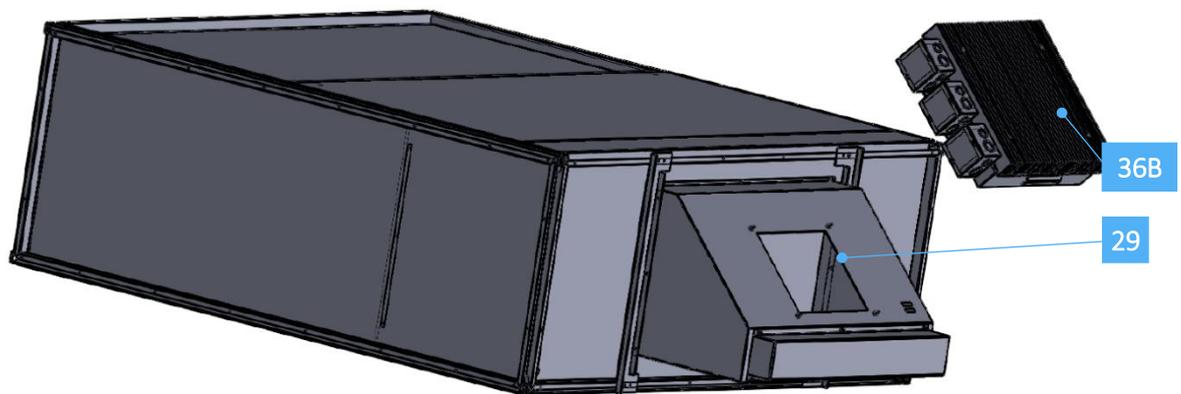
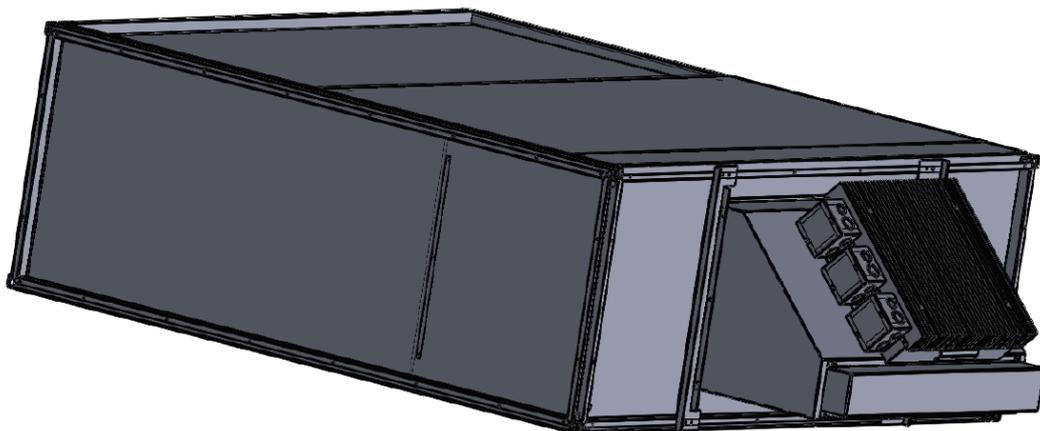
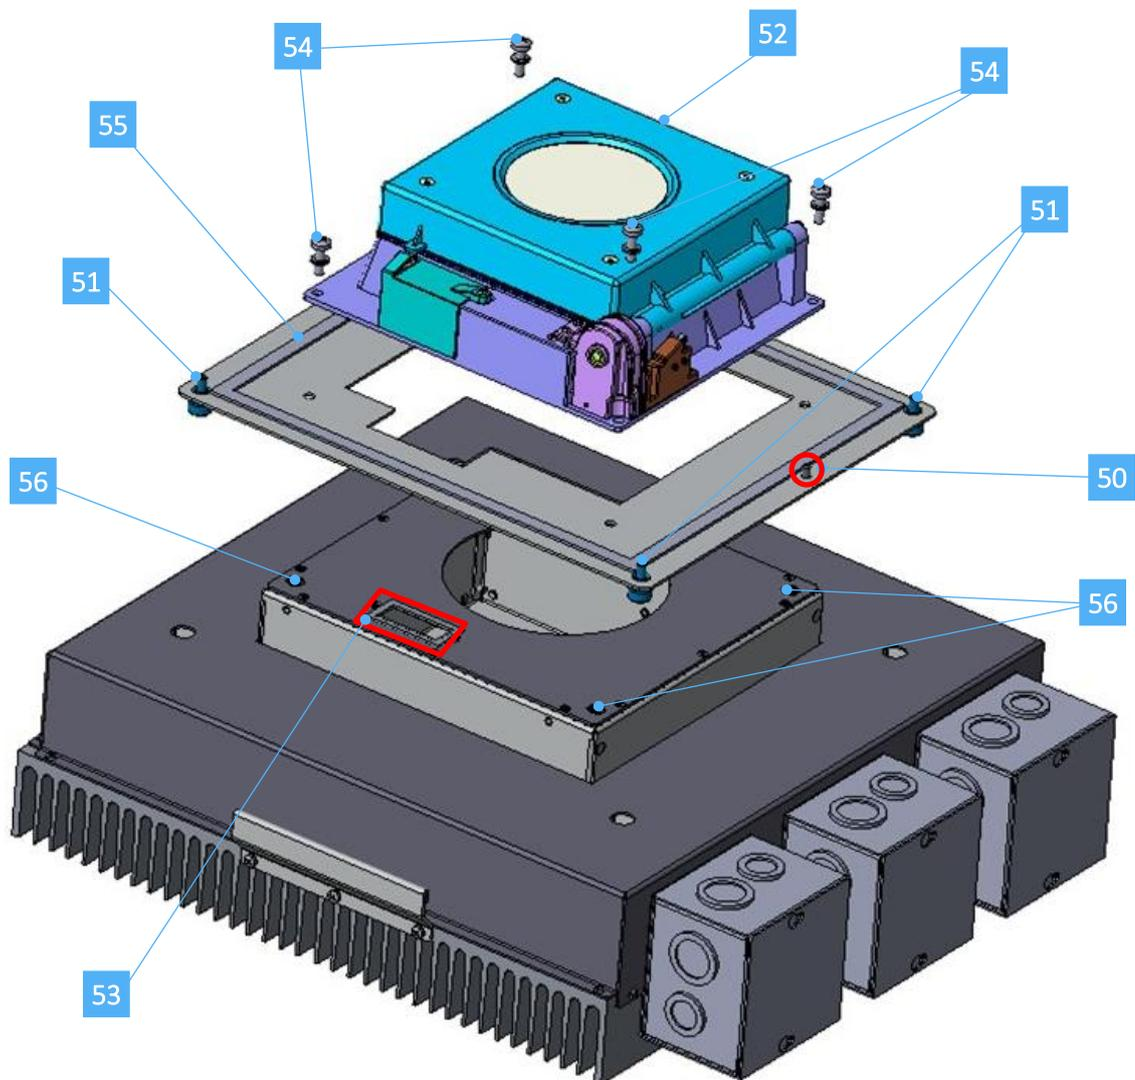
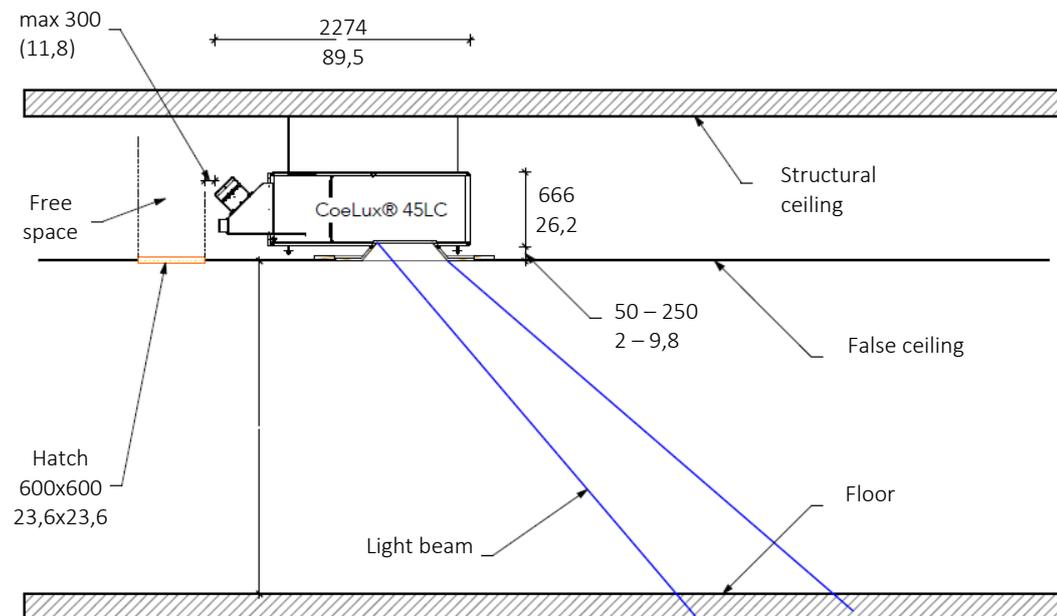

Fig. 39 *Installation sequence - Step 14B*
Fig. 40 *Installation sequence - Step 14B*
Fig. 41 Installation sequence - Step 14B, OPTION 2
Fig. 46 CoeLux® 45 LC installation diagram Dimensions in mm (inch)
OPTION 1: if you do NOT intend to use the moon module, use the centring pins [50] (red circle in Figure 41) to install the projector directly on to the tilted panel [29] (Figures 39 and 40). Then, fasten it with the 4 M6 captive screws [51] on to the support plate (Figure 41), which can be reached using the Phillips screwdriver with the 20 cm-long handle via the through holes on the aluminium louvre. N.B.: while you fasten the projector to the rest of the system, the three grey connection boxes remain on your left (Figure 40).
Use the centring pins [50] (red circle in Figure 41) to install the projector group on to the tilted panel [29] (Figures 39 and 40). Fasten it with the 4 M6 captive screws [51] on the support plate (Figure 46), which can be reached using the Phillips screwdriver with the 20 cm-long handle via the through holes on the aluminium louvre.
N.B.: while you fasten the projector to the rest of the system, the three grey connection boxes remain on your left (Figure 40).
The measurements necessary for false ceiling insertion are indicated in Figure 46.
Therefore, the implementation of a hatch placed appropriately and adequately sized is requested (data shown in Figure 46).